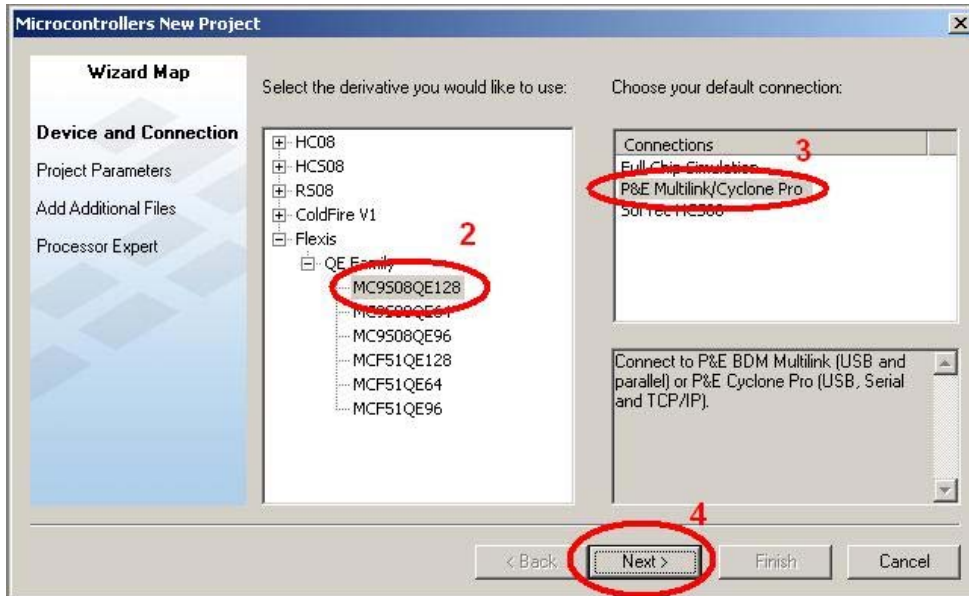

Figure 3. Microcontroller new project dialog
2. For the QE family of Flexis MCUs, expand Flexis and QE Family, choose one MCU, this example uses the MC9S08QE128. See step 2 in Figure 3.
3. Choose the default connection. Click the P&E Multilink/Cyclone Pro option to build your project for the DEMOQE128. See step 3 in Figure 3.
4. Click Next. See step 4 in Figure 3.